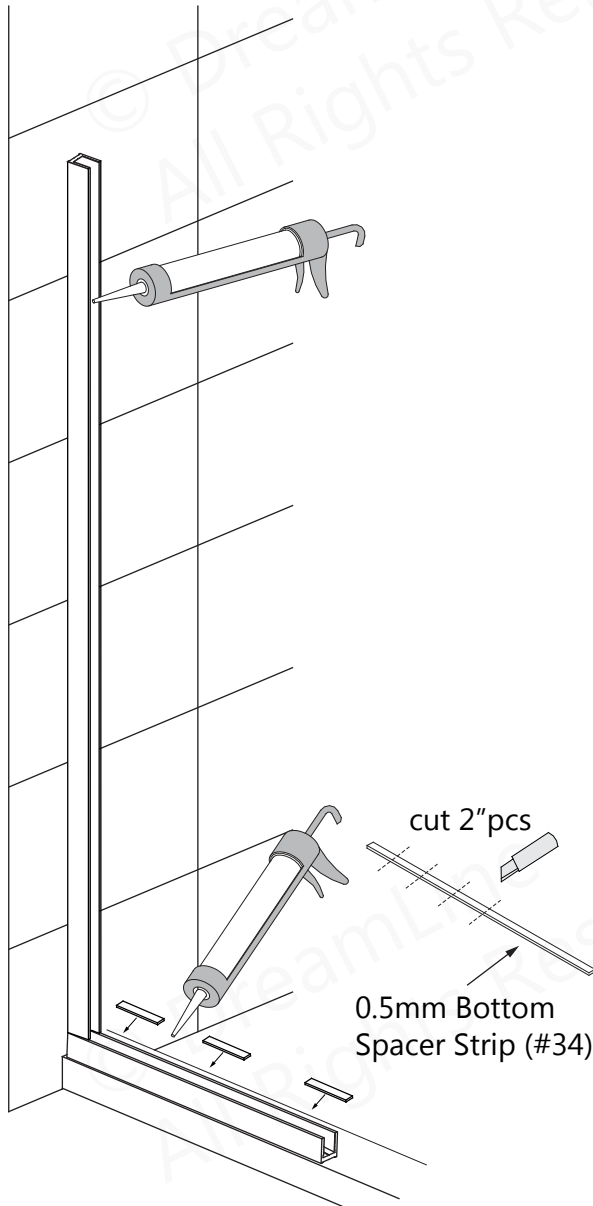

Fig 7
7. Apply a bead of silicone into the length of the U-Channels first. Then, cut and add 2" pieces of the **0.5mm PVC Glass Spacers (#34)** into the **Bottom U-Channel (#29)** to protect the bottom and corners of the glass. (Fig 7)